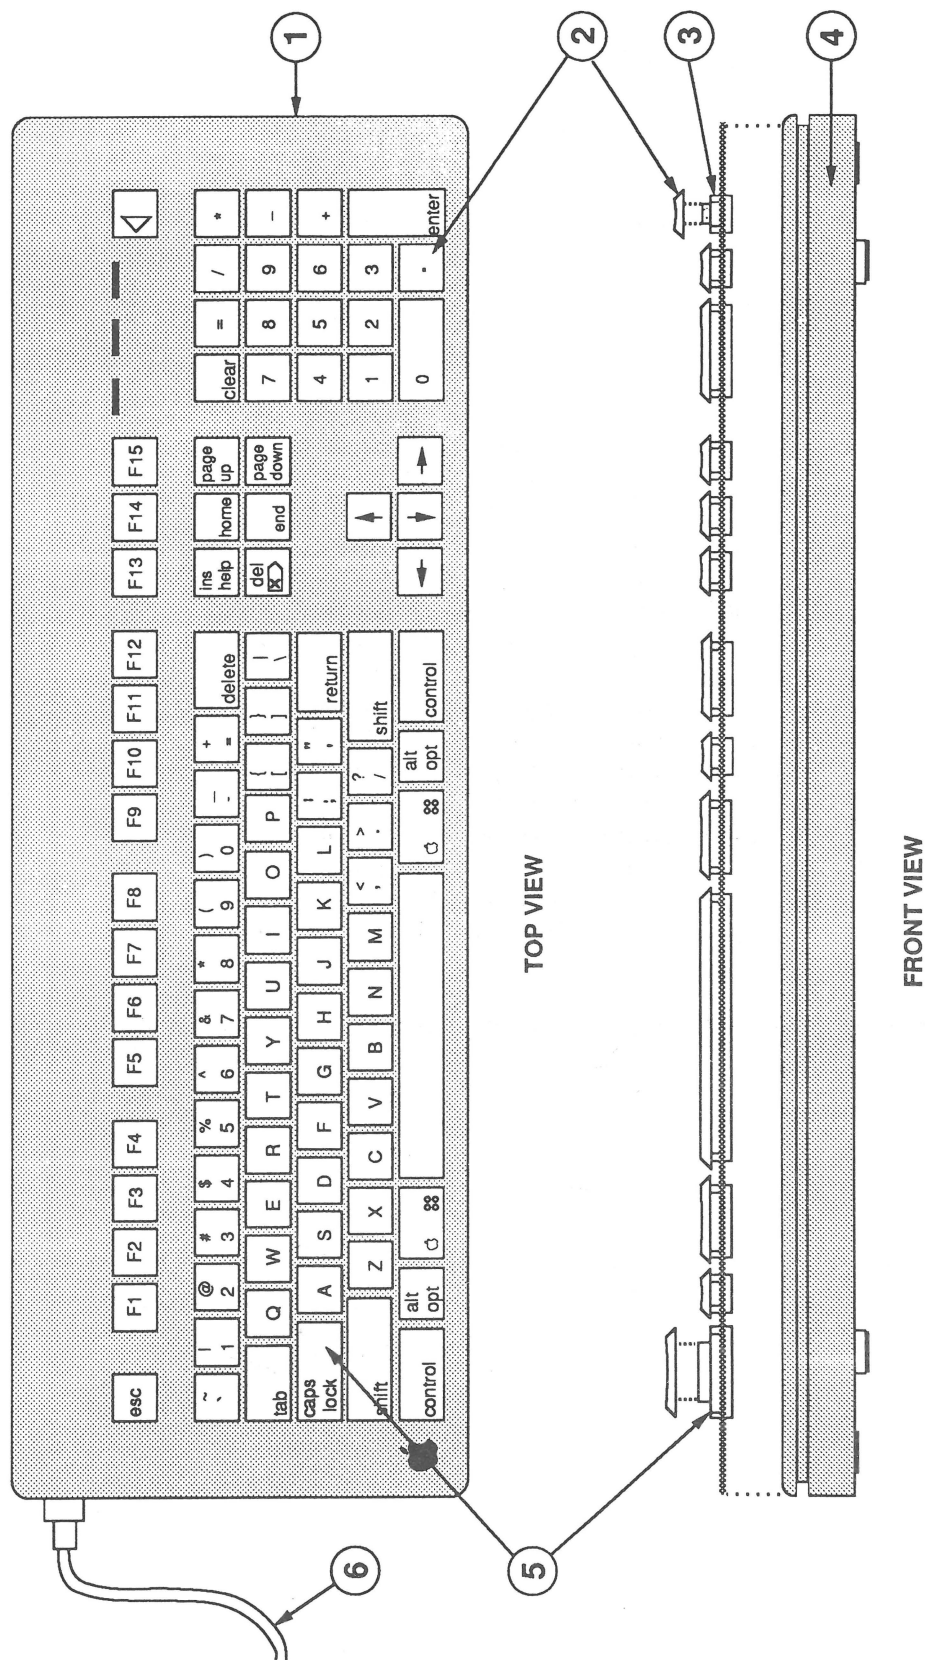

FIGURE 3
IPL.7	Extended Keyboard (Figure 3)
□ EXTENDED KEYBOARD (Figure 3)